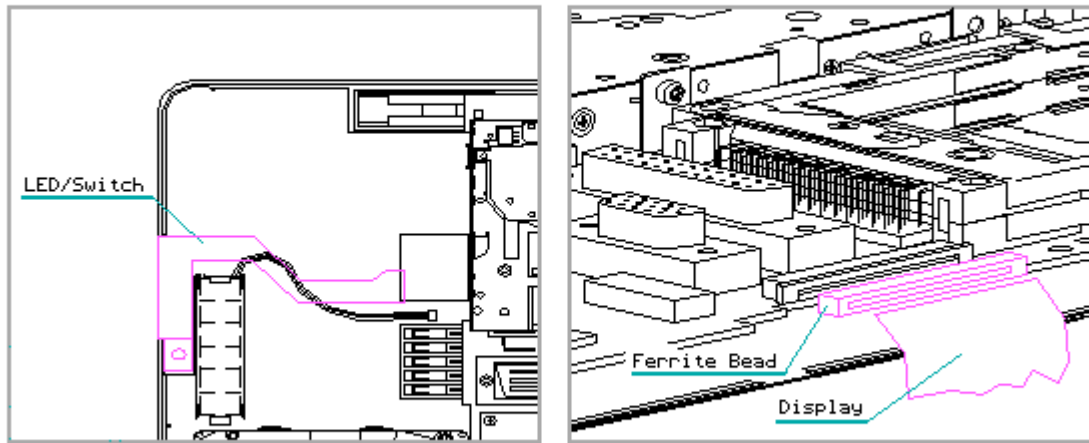

Figure 3-65. Disconnecting the LED/Switch Cable from the System Board
- b. Disconnect the display cable from the system board (Figure 3-65). Retain the ferrite ring for reuse.